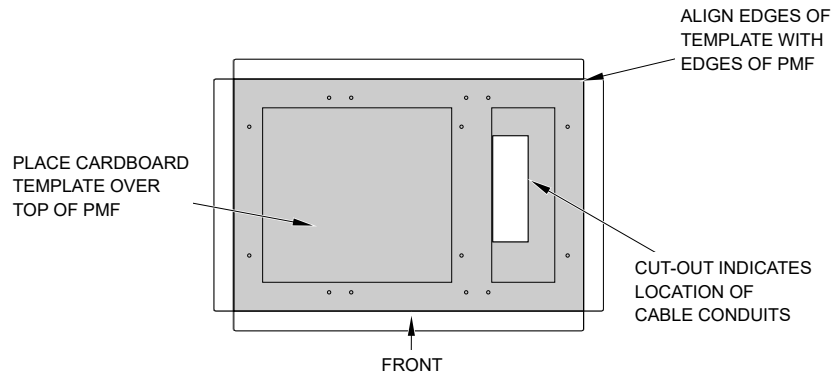

Figure 18. Using the Template To Determine Duct Location Within the PMF
3. With cabinet suspended, open the door and align floor holes to pad anchors, setting cabinet onto gasket; Figure 17 without plinth, Figure 18 with plinth.
- Place the template over the top of the PMF and align the top right corner of the template with the top right corner of the PMF as shown in Figure 18.